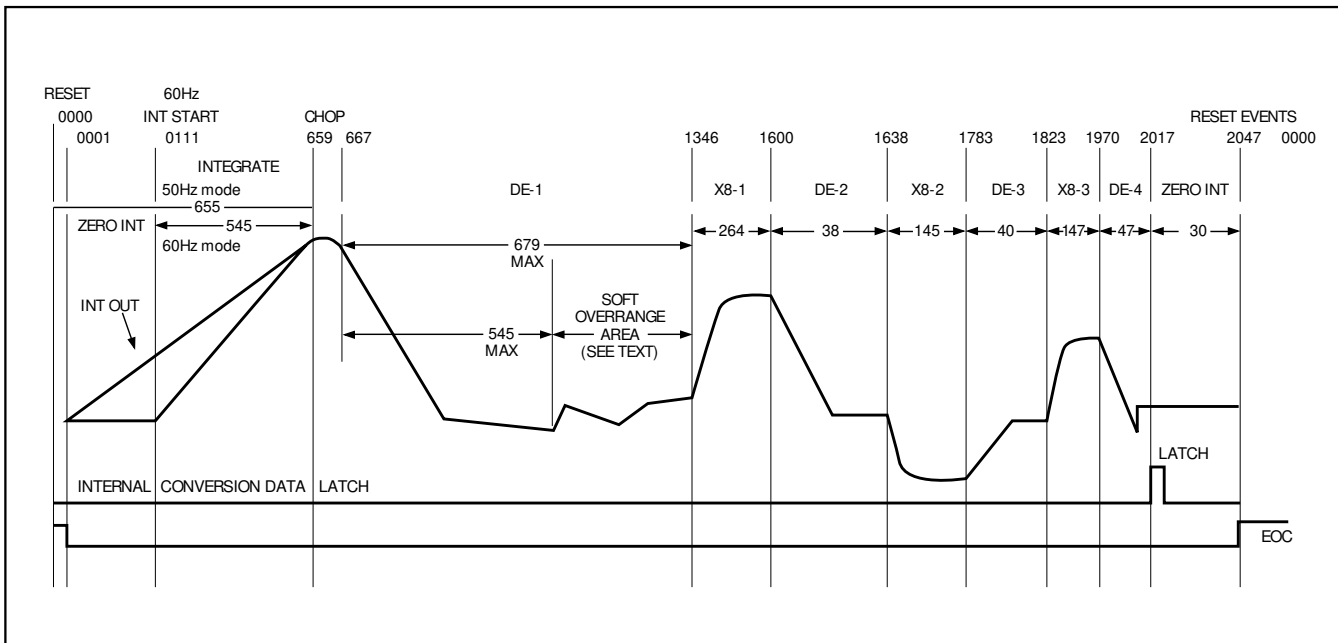

Figure 10. Conversion Timing (Negative Input Shown)
- 2) Poll either the EOC status register bit or the EOC line to determine conversion end and start time for the next conversion. EOC becomes 1 at conversion end at count 0000 of the conversion counter (Figure 10).
The MAX132 has two overrange levels (Figure 10 and Table 4). The first level is a soft overrange that is set by the user. Overrange is arbitrarily set at a value, preferably less than the 279,040 (including any zero offset) raw counts soft limit. A nonlinearity step of about 64 counts occurs at raw count 279,040 and again at 330,240 counts.
This process of measuring and accounting for the residue can be repeated for the successively smaller errors remaining after each deintegration. (Deintegration is simply an integration of  $V_{REF}$ , with polarity chosen so the integrator output ramps toward zero.) The MAX132, for example, executes three cycles in which the residue is inverted, multiplied by eight, and deintegrated (Figure 10).
The zero-integrate phase zeros out the integrator to prepare for the next integration (Figure 10). This phase occurs at the beginning and end of each conversion. At power-up, or in the hold mode prior to a conversion, the MAX132 continues to zero integrate until a conversion starts. When a conversion starts in 60Hz mode, another 111 clocks of zero integrate are completed before the beginning of a conversion. In 50Hz mode, only one additional zero integrate is performed before the conversion starts. An additional 20 clocks of zero integrate occur at each conversion end.